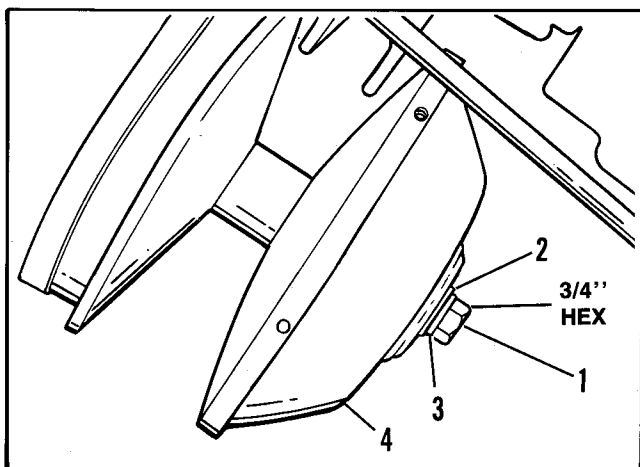

Figure 9-3 – Removing Movable Flange Cover
- f. See Figure 9-3. Remove the bolt (1), washer (2) and lockwasher (3) from the floating flange (4).